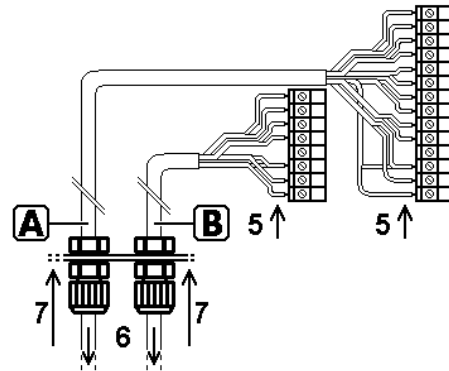

FIGURE 19 – CONTROL/MONITORING CABLE CONNECTION
- Connect the cable wires (see Figure 19 – Control/monitoring cable connection) to be used to the dedicated removable male terminal connector according to the charts in the following table.